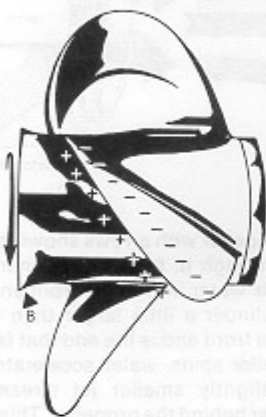

Figure 4A
Look at the blade facing directly at you in this side view (Figure 4A). As it rotates downward, water is pushed down and back naturally, just as it is done by your hand when swimming. This results in positive pressure. At the same time, water is being drawn in on the top side of the blade as the blade turns. This results in negative pressure. This action occurs on all blades at the same time as the motor rotates the propeller. Negative pressure pulls the prop along, while positive pressure pushes it along.
- B. **Diffuser ring** aids in reducing exhaust back pressure and in preventing exhaust gas from feeding back into propeller blades. (shown in Figure 4A)